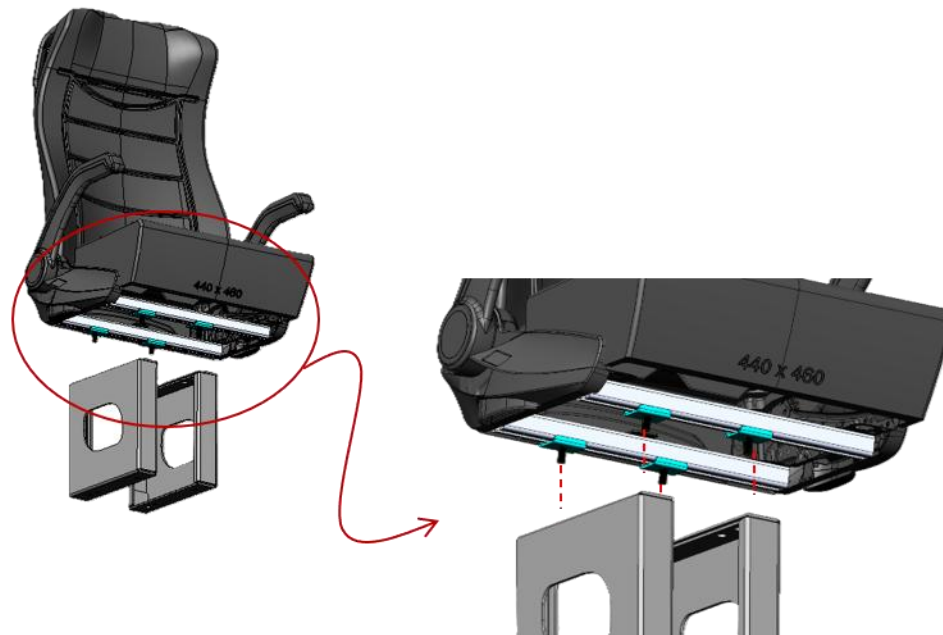

Figure 3
Step 3 Attach the seat to the factory legs using the M10 T-bolts. Secure each connection with an M10 flat washer and M10 Nyloc nut, then tighten securely, as shown in **Figure 3**.